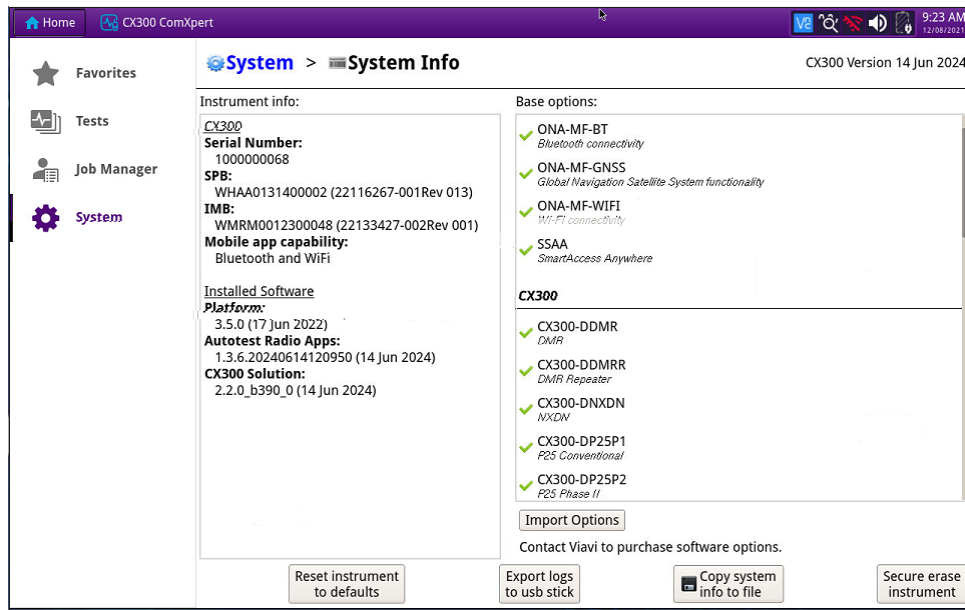
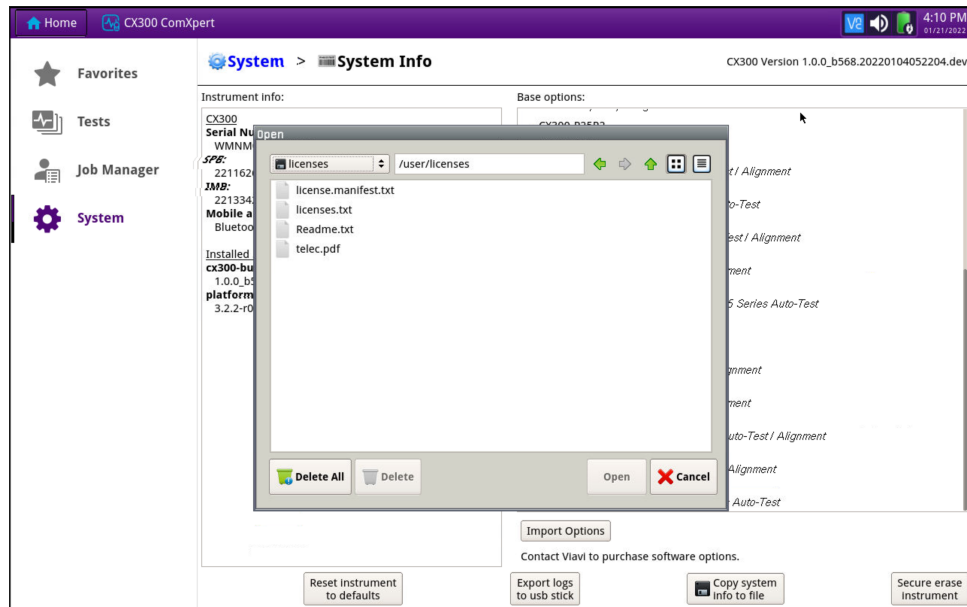

Figure 1-1 System Info Screen
Figure 1-2 Import Options Selected
| Figure 1-1 . . . System Info Screen . . . . .                           | 1-4  |
| Figure 1-2 . . . Import Options Selected . . . . .                      | 1-5  |
2. Navigate to the System Info Screen. See Figure 1-1.
3. Select the **Import Options** button. See Figure 1-1 and Figure 1-2.
4. Select the Option to install, or use the Select All button. See Figure 1-2.